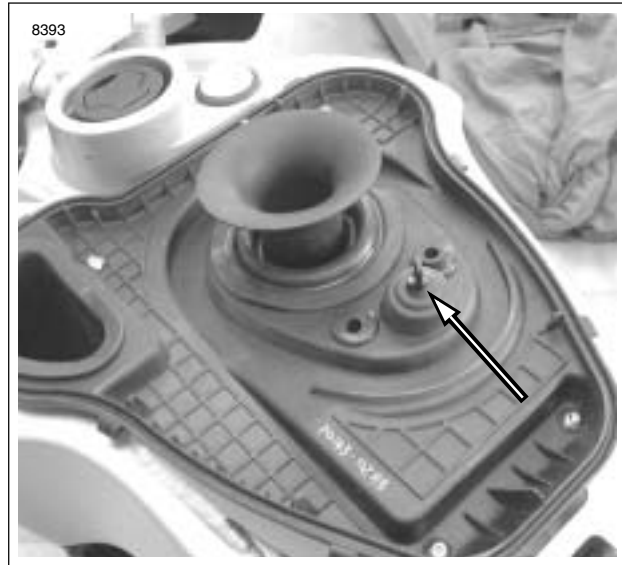

Figure 4-79. Intake Air Temperature Sensor Installed
2. See Figure 4-79. Remove airbox cover, filter. Remove fasteners securing base. See 4.45 AIRBOX.